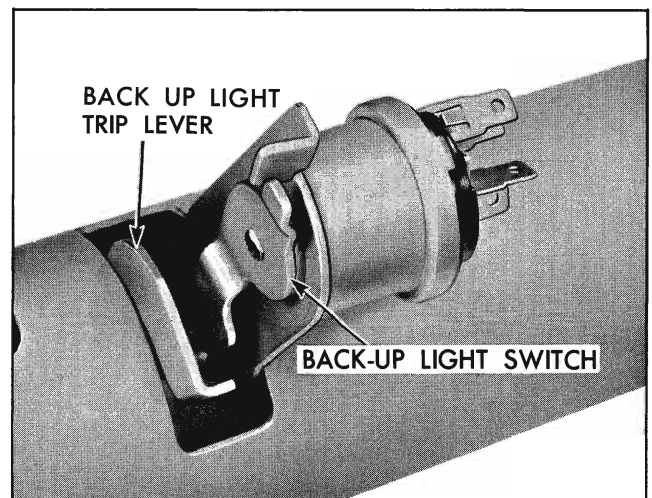

Fig. 9-12 Back-Up Light Trip Lever Location
4. Remove back-up light trip lever retaining screw and washer and remove lever through opening in steering column housing (Fig. 9-12).